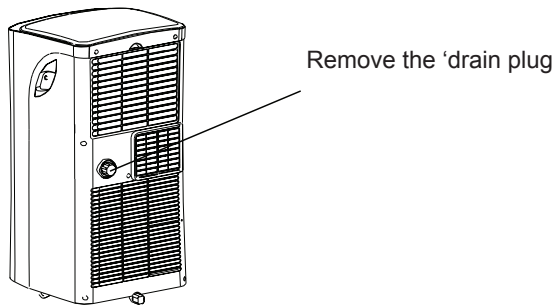

Fig.21
- During dehumidifying modes, remove the drain plug from the back of the unit; install the drain connector (5/8" universal female mender) with 3/4" hose (locally purchased). For the models without drain connector, just attach the drain hose to the hole. Lead the open end of the hose to the desired drainage receptacle. Please refer to Fig. 21 & 22.